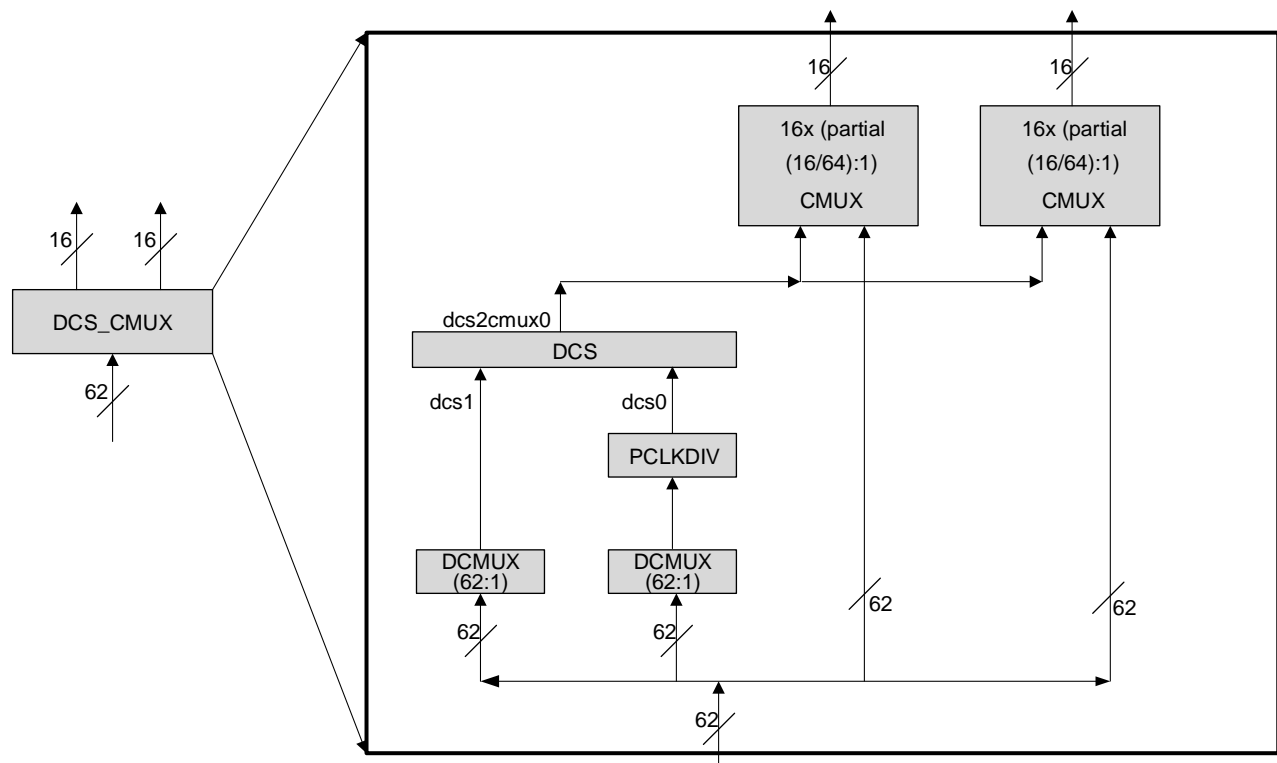

Figure 2.9. DCS_CMUX Diagram
The PCLKDIV supports $\div 2$, $\div 4$, $\div 8$, $\div 16$, $\div 32$, $\div 64$, $\div 128$, and $\div 1$ (bypass) operation. The PCLKDIV is fed from a DCSMUX within the DCS_CMUX block. The clock divider output drives one input of the DCS Dynamic Clock Select within the DSC_CMUX block. The Reset (RST) control signal is asynchronously and forces all outputs to low. The divider output starts at next cycle after the reset is synchronously released. The PCLKDIV is shown in context in Figure 2.9.
All clock sources are selected and combined for primary clock routing through the Dynamic Clock Selector Center Multiplexor logic (DCS_CMUX). There are one (1) or two (2) DCS_CMUX blocks per device. Each DCS_CMUX block contains 2 DCSMUX blocks, 1 PCLKDIV, 1 DCS block, and 1 or 2 CMUX blocks. See Figure 2.9 for a representative DCS_CMUX block diagram.